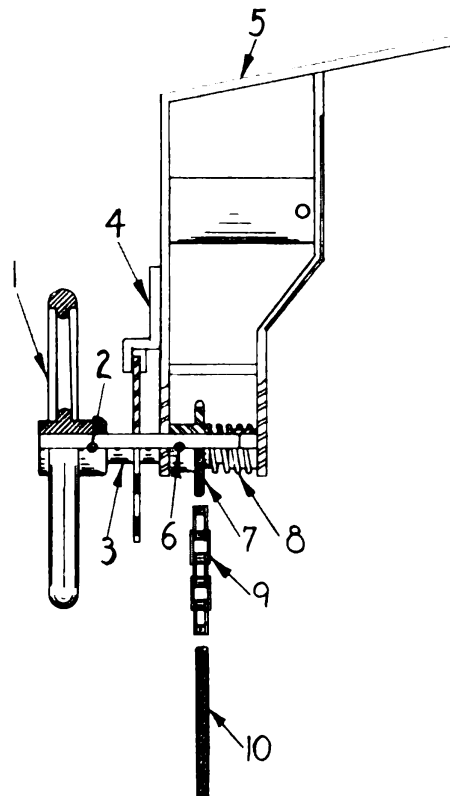

Figure 492
- (d) Remove set collar (4), and swivel spout control bracket, figure 492.
The chain (9) figure 492 and cable (10) may be removed without disassembly of the control unit.